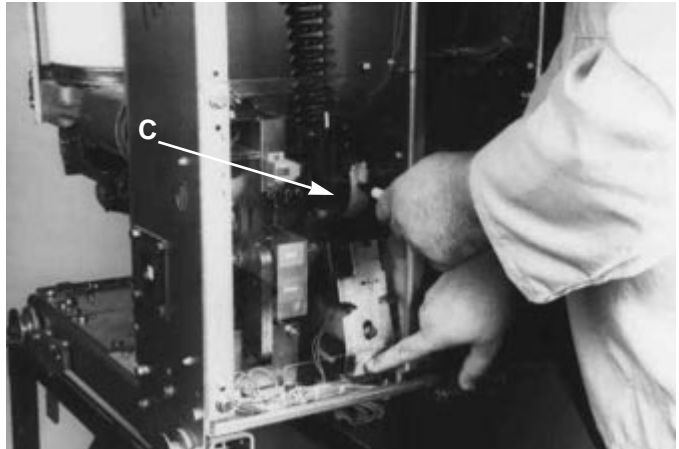

Figure 6-12 Manually Closing Circuit Breaker with Marker in Hole "C".
**General Information:** The CloSure™ Test can be performed on the VCP-W, VCP-WR, VCPW-ND, DHP-VR, W-VACR, and W-VAC lines of vacuum circuit breakers. Refer to Table 6.4 a for list of circuit breakers. If the CloSure™ travel obtained is as specified, the mechanism performance is satisfactory. If the CloSure™ travel does not conform as shown in Figure 6-12, contact Cutler-Hammer for further information. (See Step 13).
Step 8 - While holding the marker tip on the tape, close the breaker (Figure 6-12).